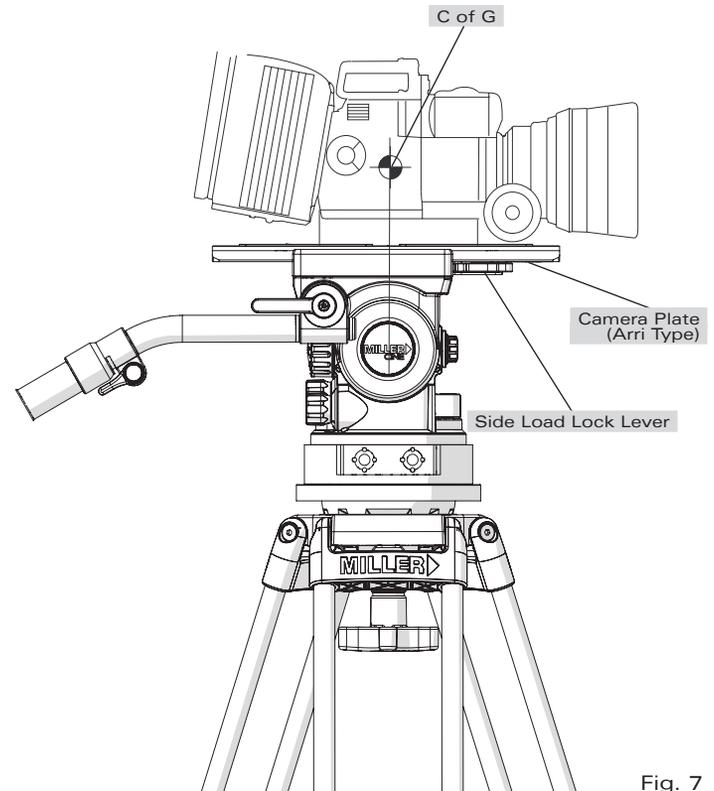

Fig. 7
- 2.5 Position the CAMERA PLATE such that the camera's C of G is directly above the centre axis of the Fluid head, (fig. 7) then push the SIDE LOAD LOCK LEVER into the locked position. Check that the CAMERA PLATE is secure.